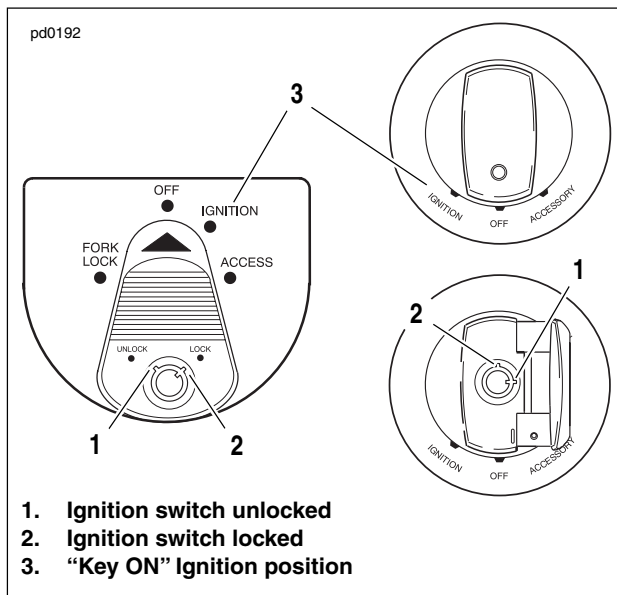

Figure 2-21. Ignition Switches
1. See Figure 2-21. Turn ignition/light switch to IGNITION position, and check that Oil pressure indicator lamp turns on (before engine is started). The Check Engine lamp and if TSSM EQUIPPED, THE SECURITY LAMP will illuminate for approximately four seconds and then turn off.